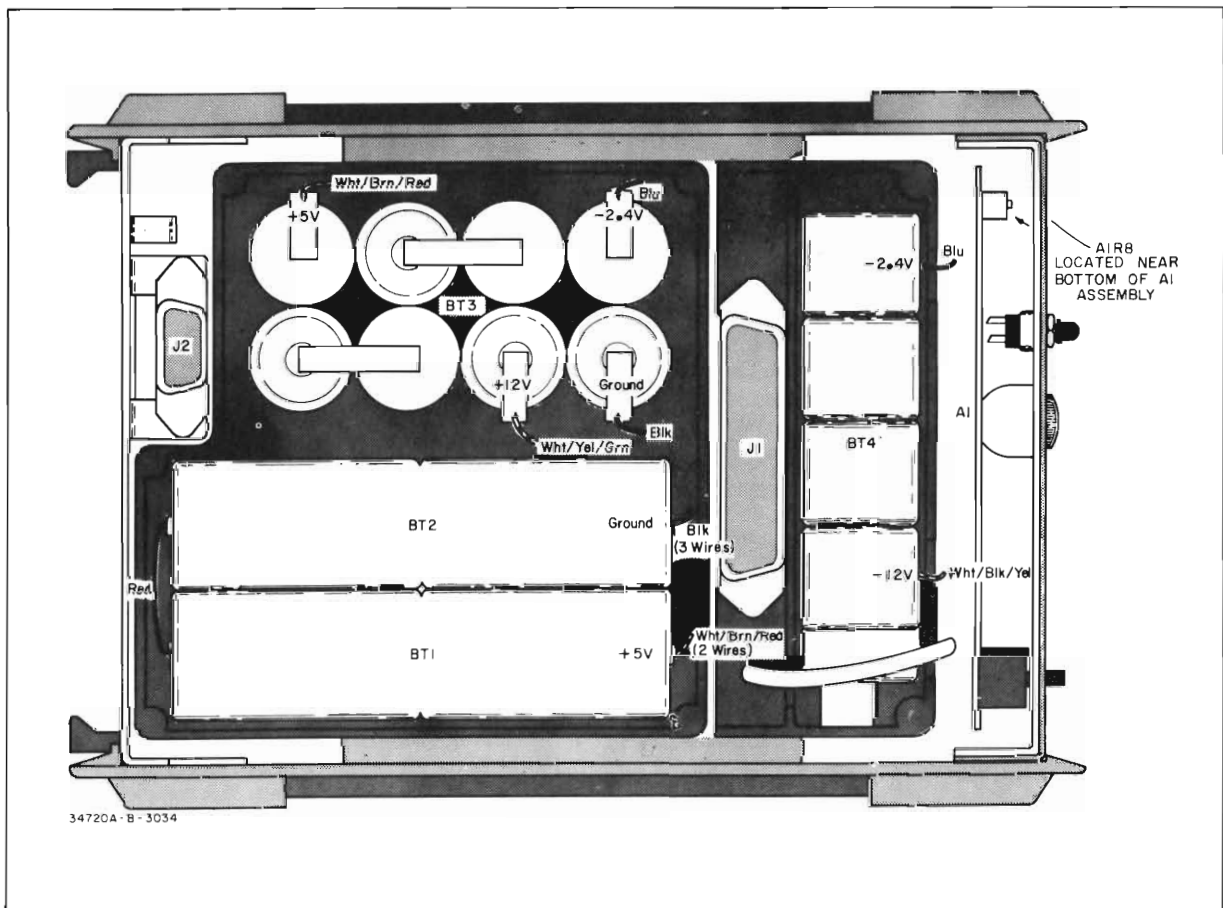

Figure 5-1. Battery Location.
- e. Turn A1R8 fully counterclockwise. (Figure 5-1 shows the location of A1R8.) The meter needle should move against the right-hand stop when the pushbutton is pressed.